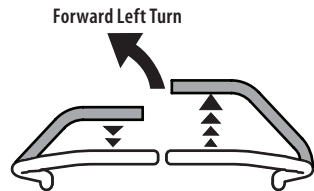

Fig. 22
1. To turn to the left, move the left drive control lever rearward of the right drive control lever (Fig. 22).